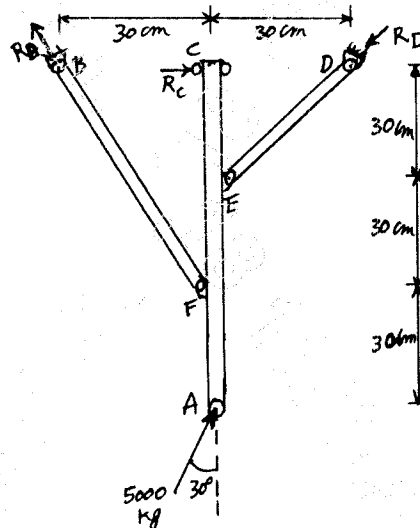

Fig Q1(b)
- b. Fig Q1(b) show a simplified airplane landing gear unit. The brace struts are pinned at each end and the support at 'C' is of roller type, thus no vertical reaction. A known load of 5000kg is applied to axle unit at 'A'. Find the load in the brace struts and reaction at 'C'.